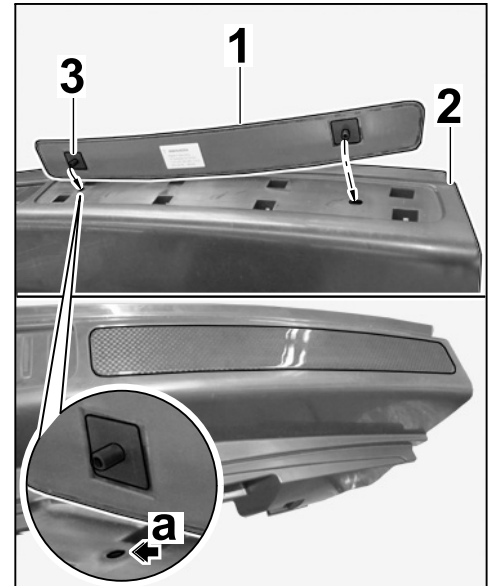

Figure 28
- 4.3.2 First position the guide pin on the right ⇒ *Figure 28-3-* into the hole ⇒ *Figure 28 -arrow a-* and then insert the trim into the slot.